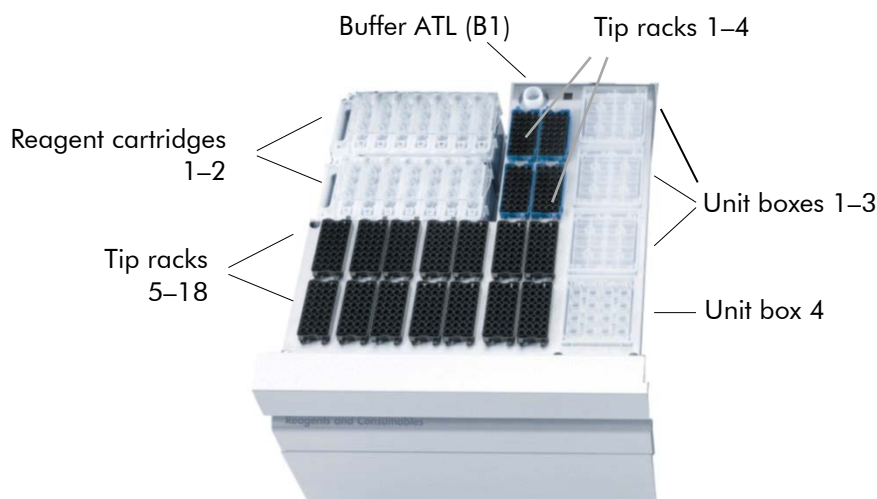

Figure 2. Position of the reagents and consumables on the QIAAsymphony SP.
6. Load the “Reagents and Consumables” drawer (Figure 2).
- Take the reagent cartridge (RC) and before using for the first time, check that Buffers QSL2 and QSB1 in the cartridge do not contain a precipitate. If Buffers QSL2 and QSB1 contain a precipitate, follow the instructions on page 15.